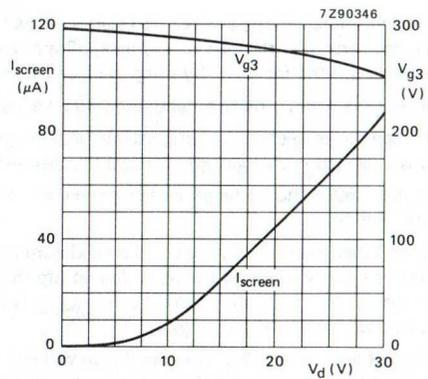

Fig. 5 Screen current ( $I_{screen}$ ) and focusing voltage ( $V_{g3}$ ) as a function of grid drive voltage ( $V_d$ ); typical curves.
- An actual focus range of approx. 50 V should be provided on the front panel.  $V_{g3}$  decreases with increasing grid drive (see also Fig. 5).
- Intensity control on the front panel should be limited to the maximum useful screen current (approx. 80  $\mu$ A; see also Fig. 5). It is to be adjusted either by the grid drive (up to 30 V) or for maximum acceptable line width. The corresponding cathode current or  $I_{g2,g4,g5}$  (up to 500  $\mu$ A) depend on the cut-off voltage and cannot be used for control settings.